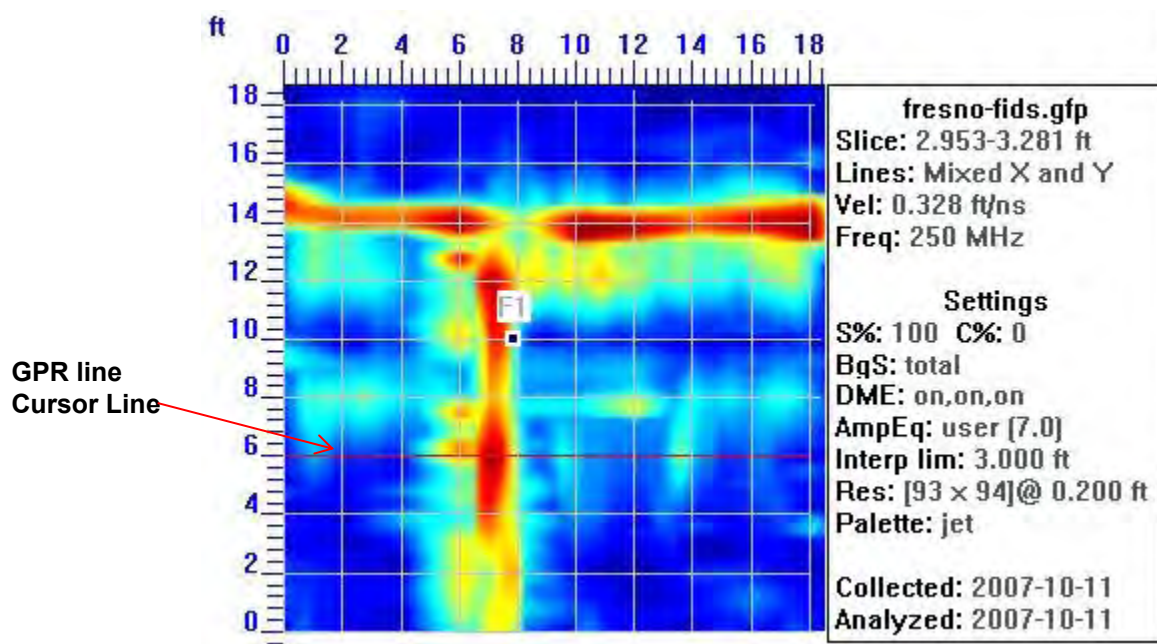

Figure 5: GPR line cursor line
- The position of the GPR Line displayed in the GPR Lines view in the grid displayed in the Depth Slice view (Figure 5).